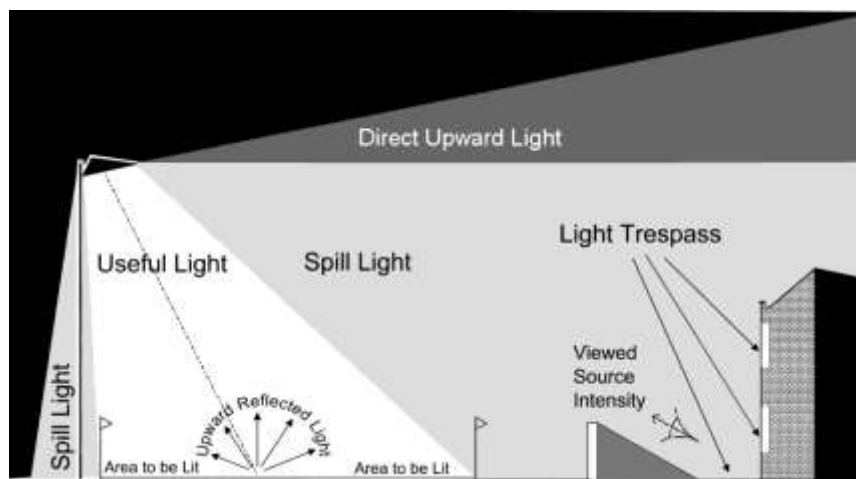

Figure 3: Light trespass
- Glare and excessive contrast caused by poorly shielded luminaires and over-lighting will not be allowed. Fit “full cut-off” luminaires to limit the amount of light trespass and spillage so as to control light output and restrict glare (Shaflik, 1997) (as illustrated in Figure 3: Light trespass)